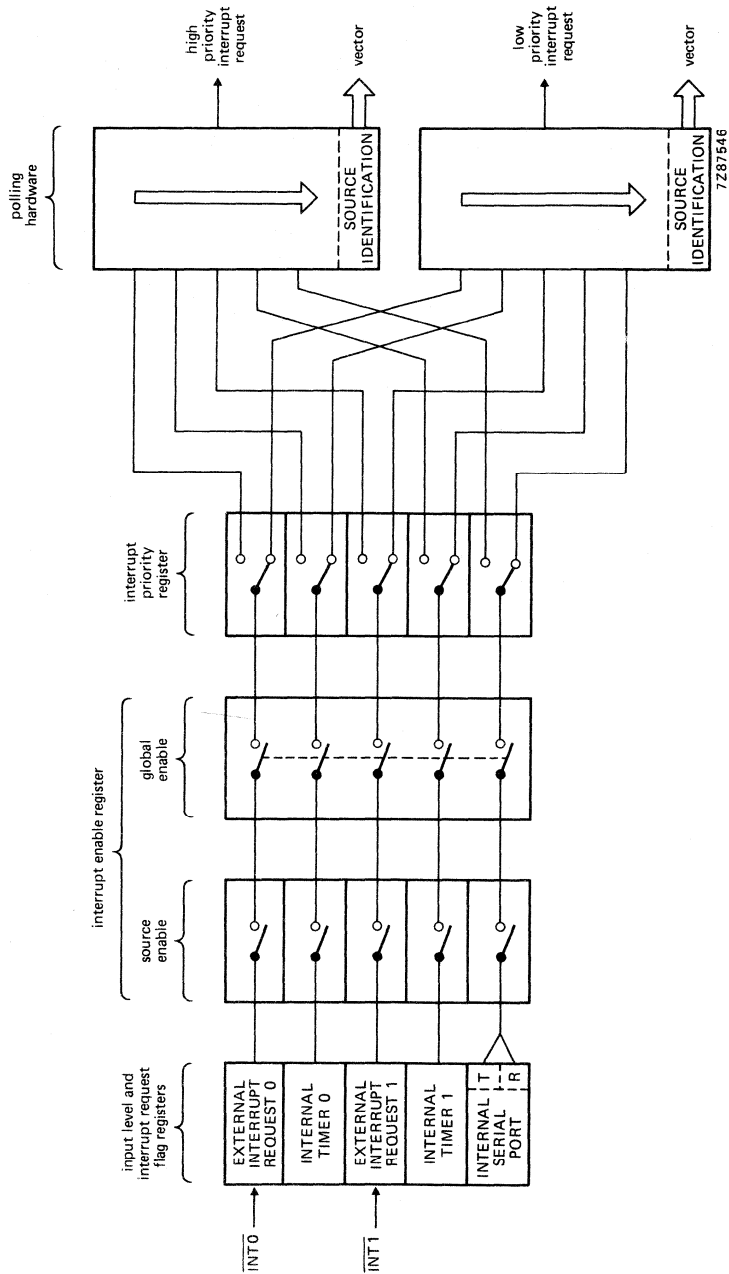

Fig. 5 Interrupt system.
**Interrupt system** (see Fig. 5)